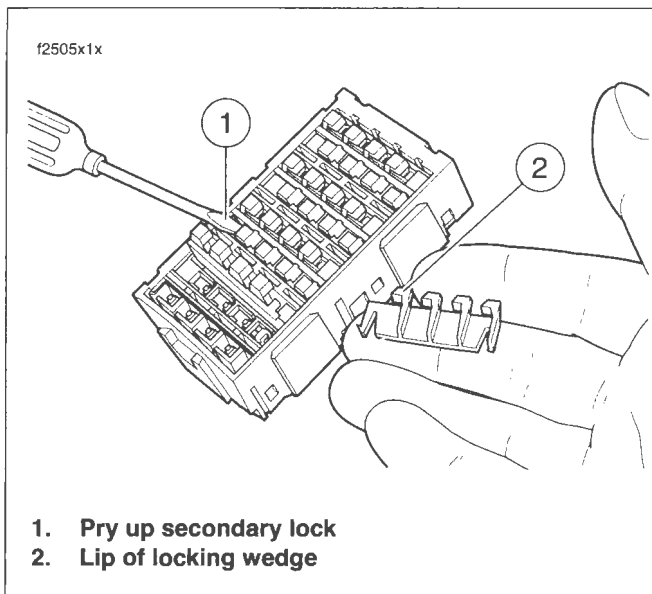

Figure B-23. Remove Secondary Locks From Fuse Block
1. See Figure B-23. To remove secondary locks, insert end of small flat blade screwdriver (1) under lip of locking wedge (2) and gently pry up secondary lock.